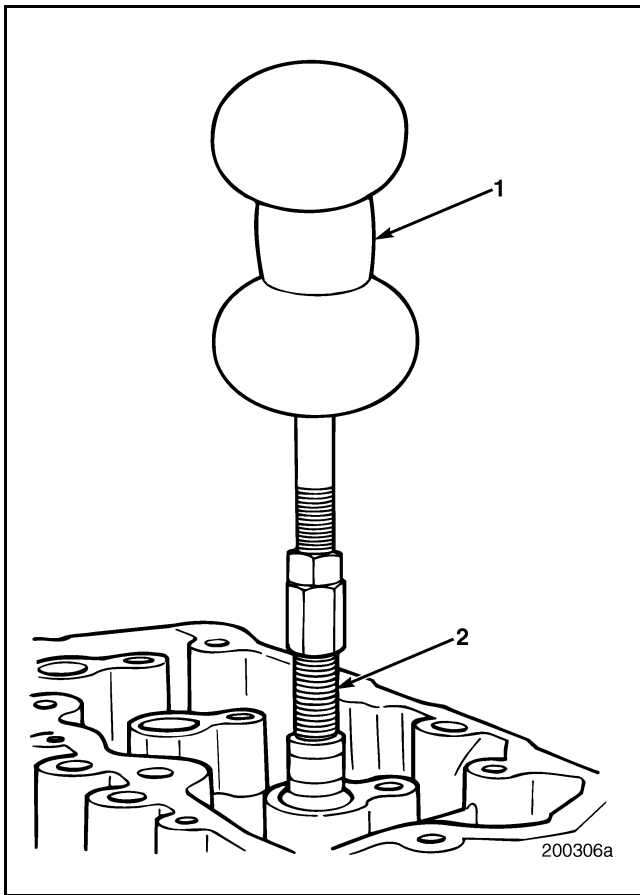

Figure 201 — Removing Injection Nozzle Holder Insert
2. Install nozzle sleeve (insert) puller J 42678 (2) to slide hammer J 2619-01 (1) or equivalent as shown in Figure 201.